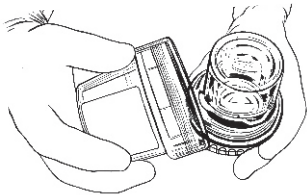

Figure 3 :
8. Open the outer polycarbonate container by rotating the container top in the anticlockwise direction (Refer figure 3). Present the inner polycarbonate container to the sterile operating person. Note that the inside of the outer polycarbonate container will be sterile if the container is not damaged. Hence the inner polycarbonate container should be handled in a sterile environment.